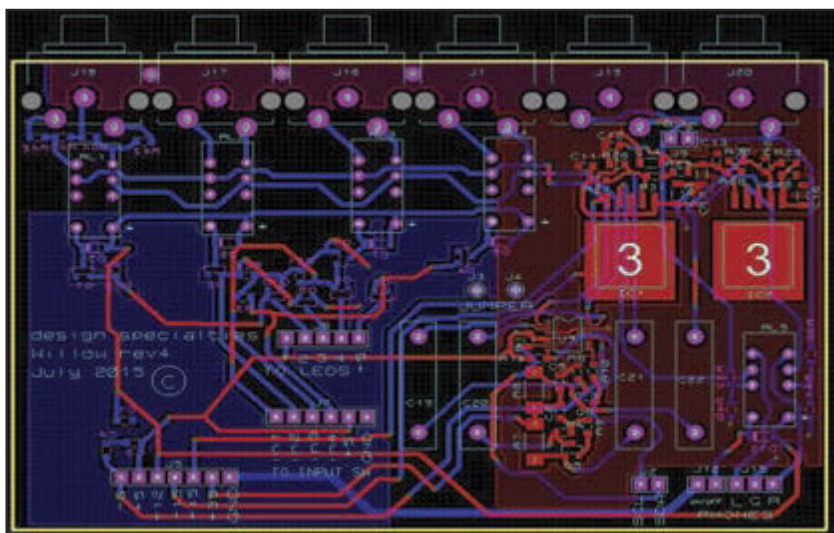
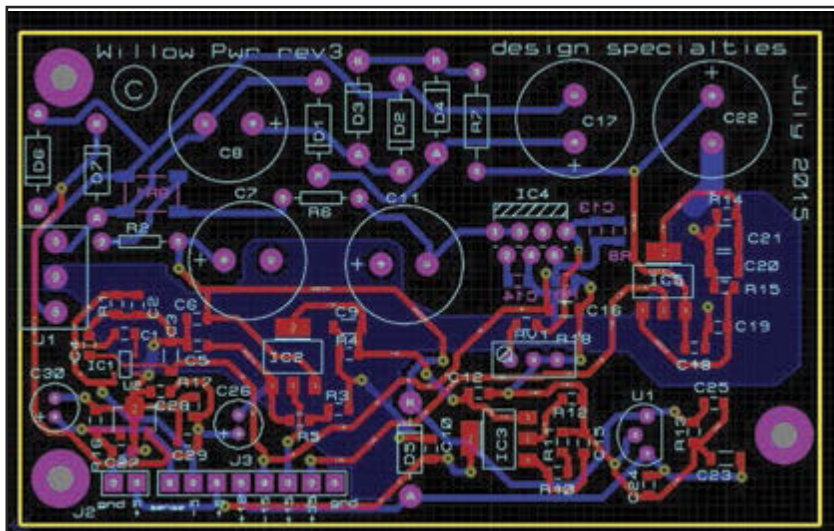

Figure 3: Looking at the PCB top trace, the red copper pour is the signal ground and the bottom blue is power supply ground.
Figure 4: The power board bottom copper shows how I ran the low noise ground plane.
Looking at the PCB top trace, the red copper pour is the signal ground and the bottom blue is power supply ground (see **Figure 3**). A jumper from J3 to J4 on the amplifier board connects the two at this single location only. The red top copper show just how small the actual amplifier is with only the leads from the inputs outside the pour itself. The inputs have their own copper pour (bottom blue on the top edge of the board). The power board bottom copper (see **Figure 4**) shows how I ran the low noise ground plane.
**Figure 4** shows the fundamental circuit. The maximum current is limited by the cathode's emission capability, which is expressed in mA/cm2 and is typically 75 mA/cm2. If the allowable limits are repeatedly exceeded, the cathode layer will be irretrievably destroyed. Therefore, the charging current spike needs to be limited by means of resistors. The datasheets contain specifications for this. In innumerable old circuits, the current limiting is achieved via the copper resistance of the transformer winding, which is also mentioned in the datasheets.
**Figure 4**, taken from a historical tube datasheet for the EZ81 (or the 6CA4), shows the total resistance necessary for the copper resistance of the transformer winding and, in case it is too low, of additional resistances in the anode line. In this case, the copper resistance  $R_p$  of the primary winding and of the secondary windings ( $R_s$ ) as well as the turns ratio are taken into consideration.